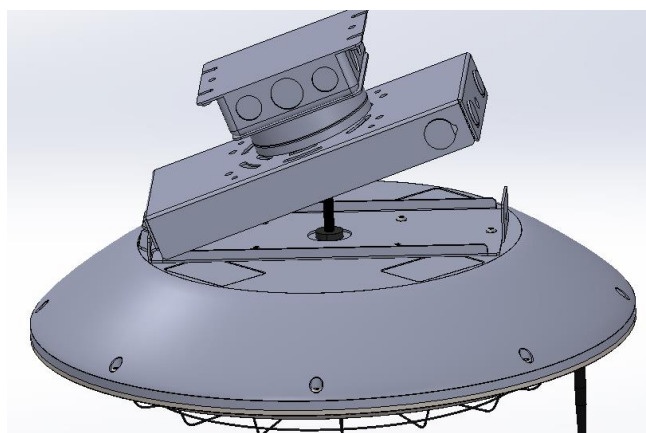

Figure 3.
3. To hang, align the tabs from the junction box plate with the slots in the housing side mounting plate. (fig.3)